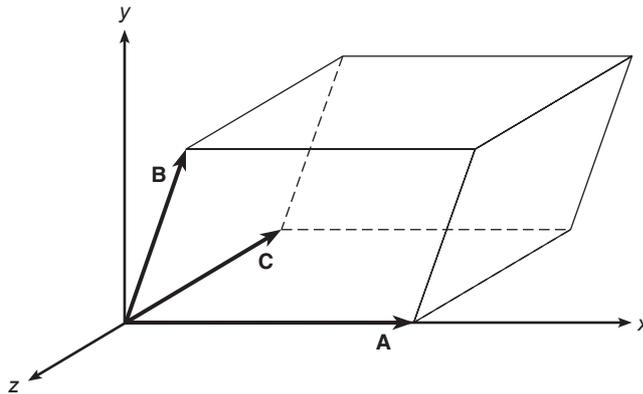

Figure P34
34. The volume of a parallelepiped can be computed from  $|\mathbf{A} \cdot (\mathbf{B} \times \mathbf{C})|$ , where  $\mathbf{A}$ ,  $\mathbf{B}$ , and  $\mathbf{C}$  define three sides of the parallelepiped (see Figure P34). Compute the volume of a parallelepiped defined by  $\mathbf{A} = 5\mathbf{i}$ ,  $\mathbf{B} = 2\mathbf{i} + 4\mathbf{j}$ , and  $\mathbf{C} = 3\mathbf{i} - 2\mathbf{k}$ .